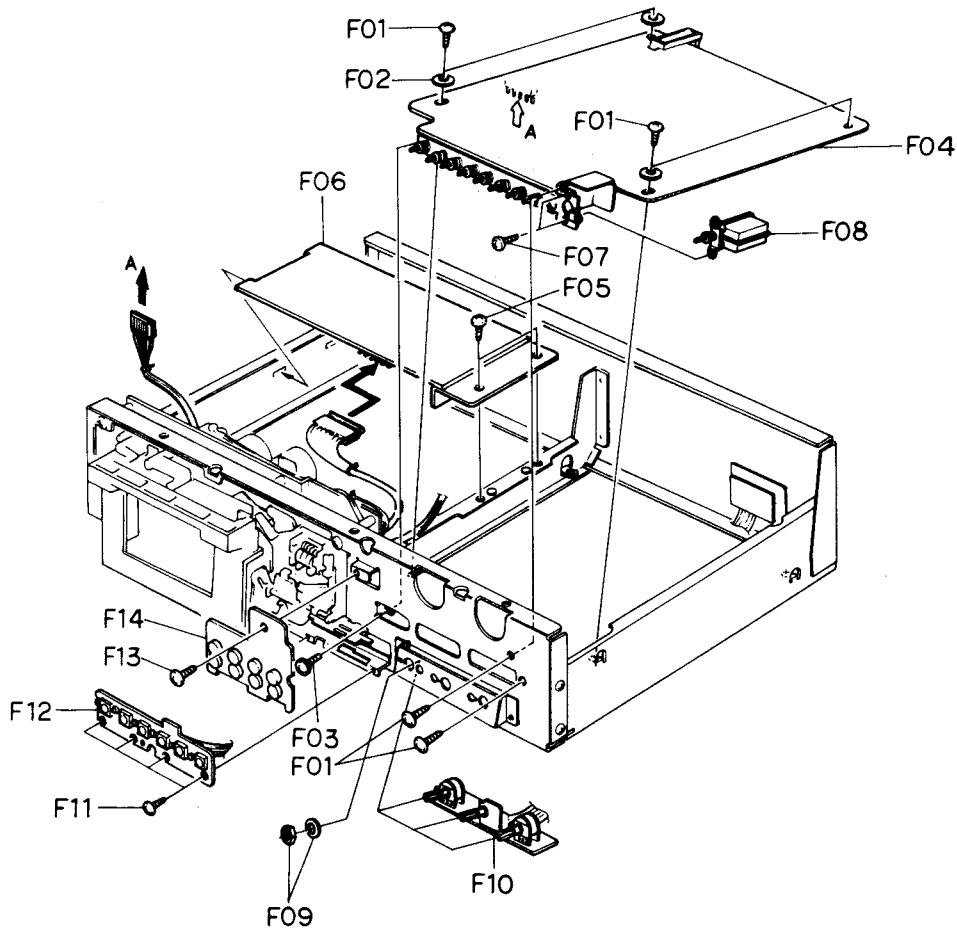

Fig. 3.3
Refer to Fig. 3.3.
- (1) Refer to Fig. 3.3. Remove Main P.C.B. Ass'y referring to item 3.6.
- (2) Remove F07, then disassemble F08 (Power Switch) .